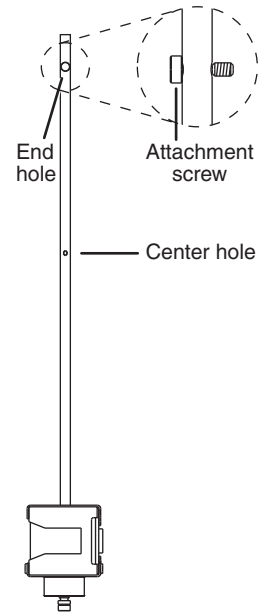

Figure 3: Attachment screw loosely captured in center hole
3. Select one of the holes on the pendulum rod: either the center hole or the end hole. Also select a side of the pendulum: either the catcher or the bumper. Thread the attachment screw into the hole as shown in Figure 3. Screw it all the way in so it is loosely captured.